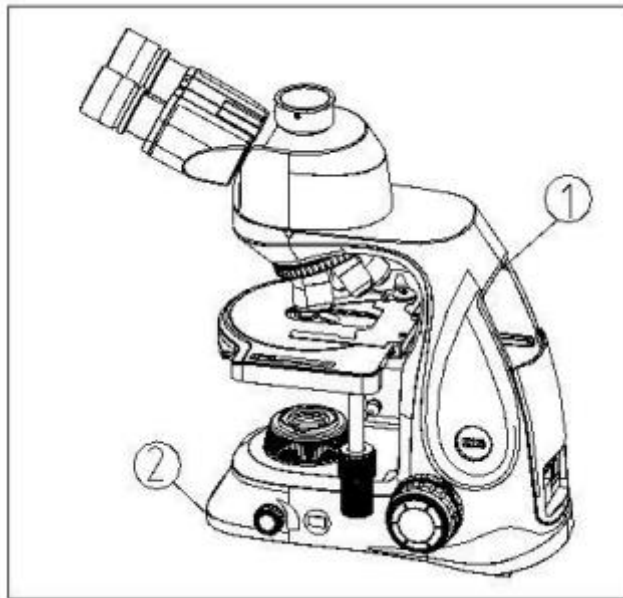

Figure 20
- 2) When moving the microscope, use both hands to hold the back hand-clasping (①) and the front base (②), and lay it down carefully (see Fig. 20).